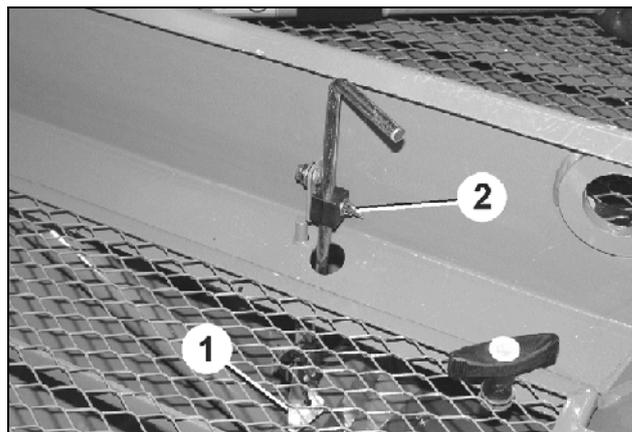

Fig. 108
1. Slacken the thumb nut (Fig. 108/2) lösen.
- 2 Set the level of the fill level sensor (Fig. 108/1) according to the desired seed residual amount.